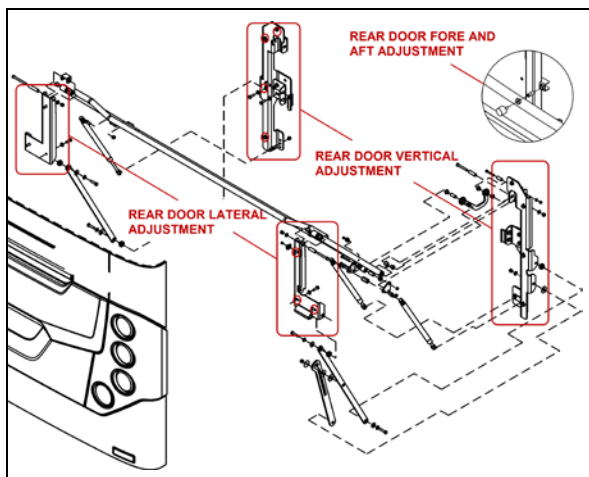

FIGURE 70: ENGINE COMPARTMENT DOOR 18633_1
1. To adjust the door VERTICAL position, loosen the bolts (4 on each side) holding the door supporting arm and gas springs bracket to the vehicle structure (Figure 70).
2. To adjust the door LATERAL position, loosen the bolts (3 on each side) holding the door supporting arm and gas springs bracket to the door (Figure 70).
3. Adjust the door FORE & AFT position by screwing/unscrewing the rubber door stops on each side of the door opening (Figure 70).